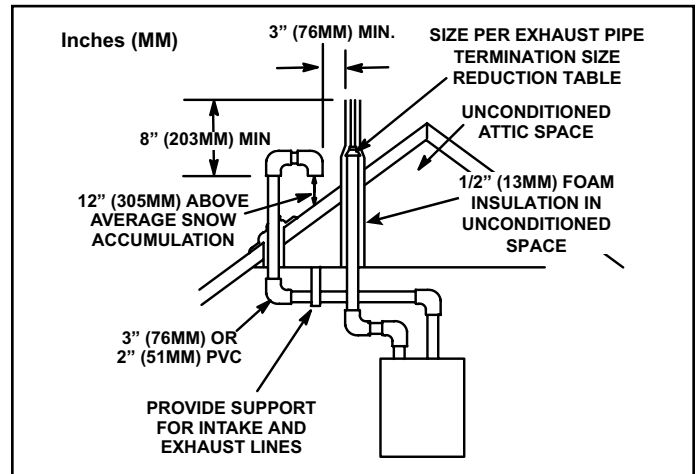

Figure 26. Direct Vent Roof Termination Kit (15F75 or 44J41)
Intake and exhaust pipes may be routed either horizontally through and outside wall or vertically through the roof. In attic or closet installations, vertical termination through the roof is preferred. Figure 26 through Figure 32 show typical terminations.
3. On roof terminations, the intake piping should terminate straight down using two 90° elbows (See Figure 26).